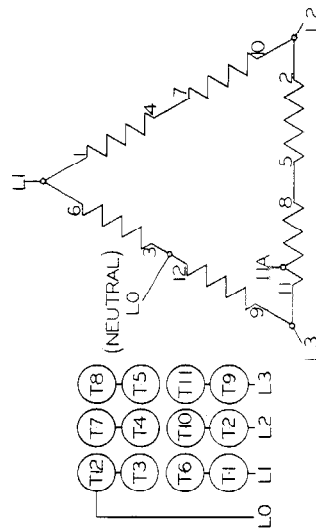

FIGURE 5
4. For 240 volt 3 phase - 3 wire previous to serial No. 230988 use Fig. 5 omitting terminal L0.